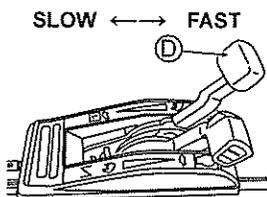

Fig. 19.
- 5 Adjust the mowing speed with Gearshift lever (D). (See Fig. 19.)